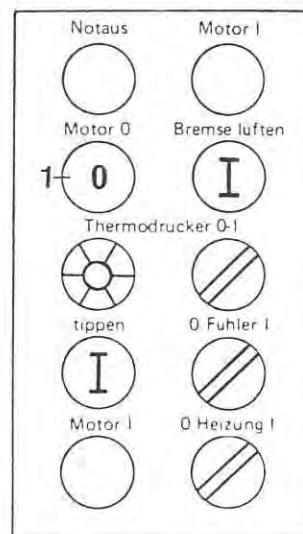

Fig. 127
1. Stop the feed of product and switch off the machine by pressing the „Machine 0“ button (Figure 127/1) while the compensating piston (Figure 126/1) or the pressurized piston is lowered.
2. Vent the brake. Operate the machine by pressing the „Tip“ button (Figure 127) until the packages have underweight.